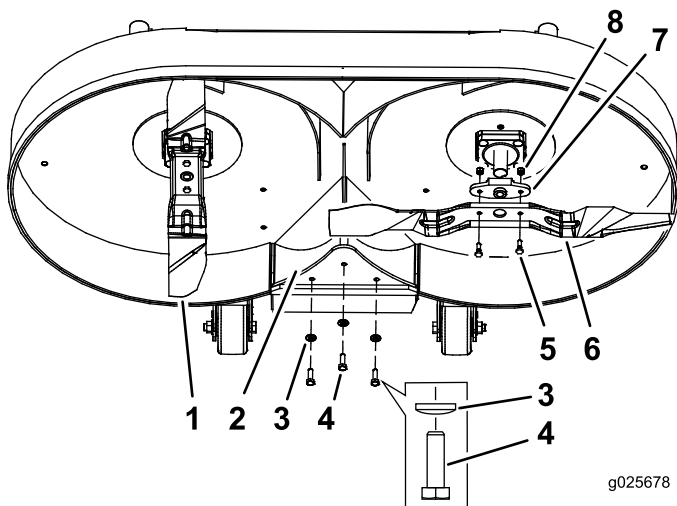

Figure 2
6. Install the mulch plug into the discharge opening with 3 bolts (3/8 x 1 inch) and 3 curved washers (Figure 2).
Note: The red blade is installed on the right-hand gearbox shaft (Figure 2).